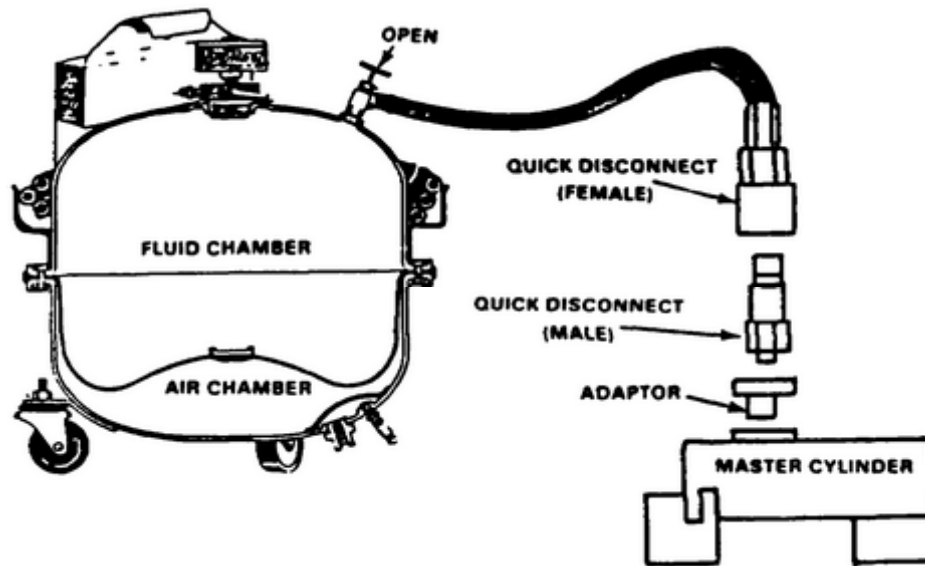

FIGURE 71. FILLER/BLEEDER CONNECTION TO MASTER CYLINDER
- d. Connect the female quick-disconnect, Figure 71 (the female disconnect is attached to the end of a long hose), directly to the male adapter on the master cylinder.